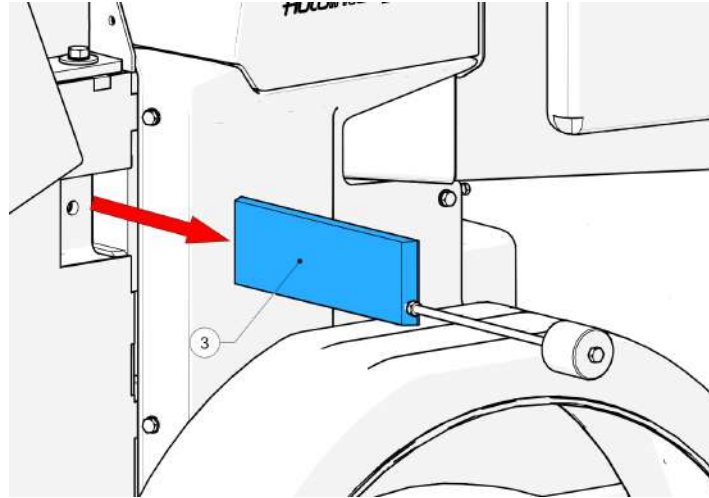

Figure 63 - Anvil removed
10. Using the slide hammer, extract the anvil (3, Figure 63) through the side of the chamber.